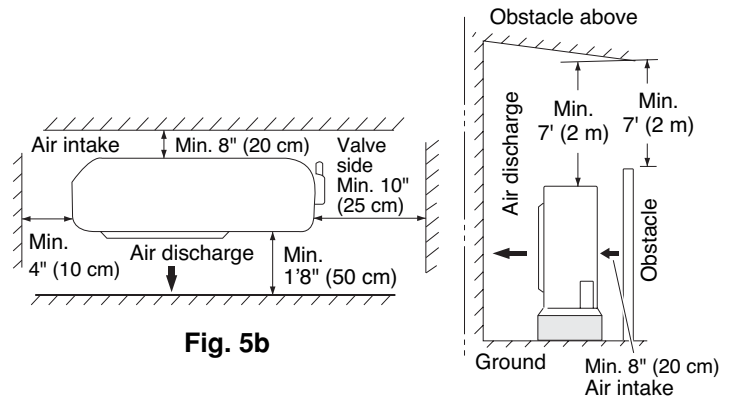

Fig. 5b
- allow enough room around the unit for air intake/exhaust and possible maintenance. (Fig. 5b)